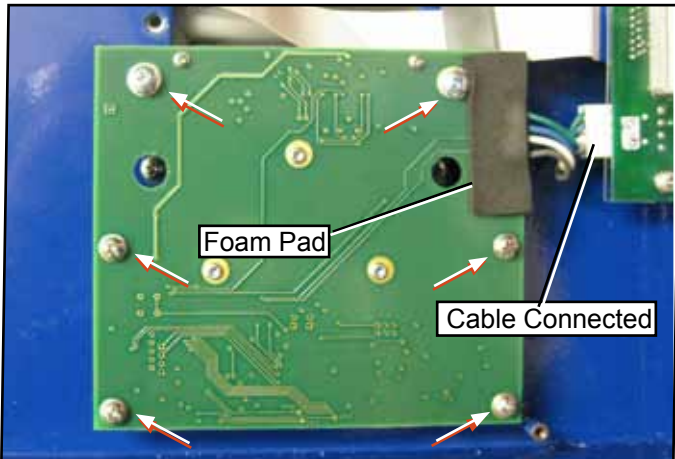

Figure 6: Printer Circuit Board Installed
12. Attach the 6 screws for the thermal printer board to the front door (Figure 6). Refer to the screw chart on the previous page.
13. Connect the cable from the thermal printer board to the interface board of the front door (Figure 6).
2. Remove the 6 screws as shown in Figure 6.